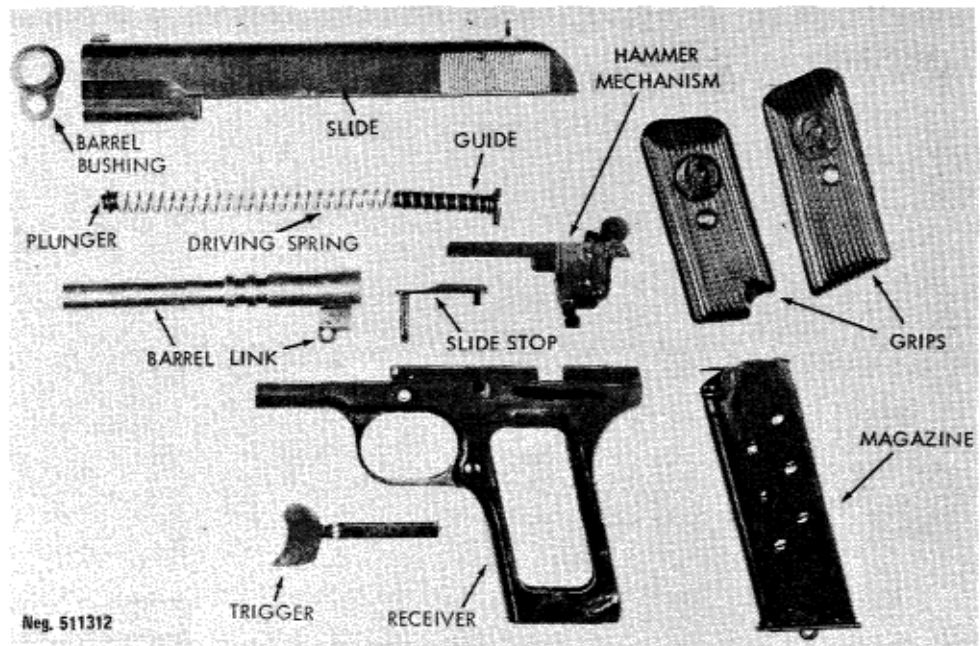
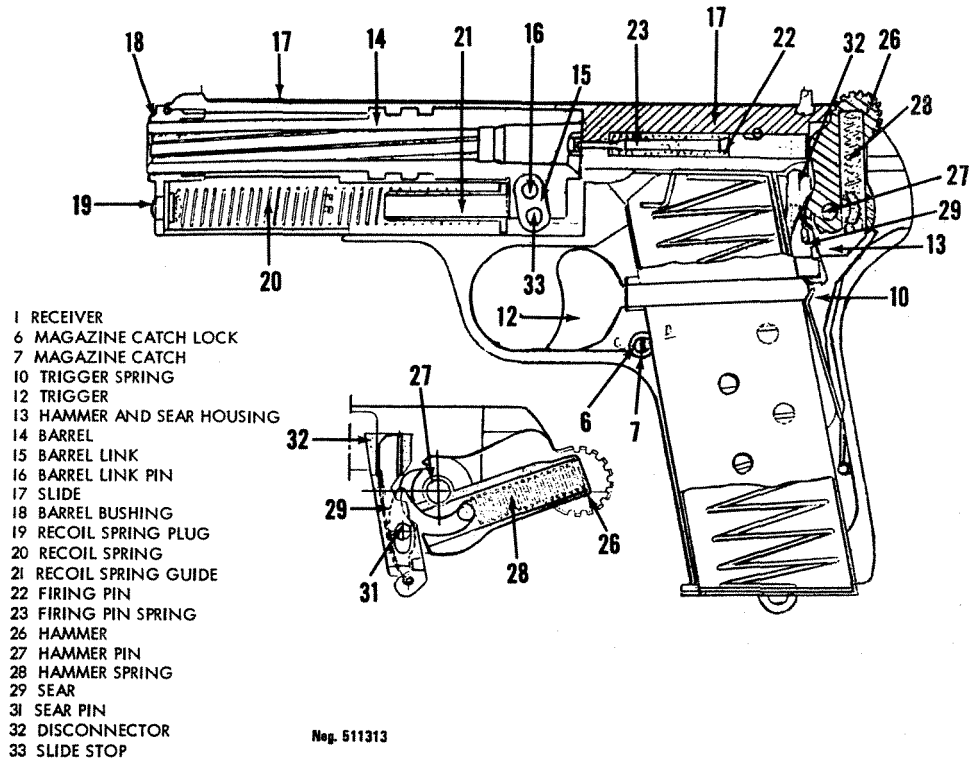

Figure 13. Tokarev pistol, disassembled.
Figure 14. Tokarev pistol, section.
(1) Clear the pistol (para 15d), but do not insert the magazine.
(2) Use the point of a bullet or similar item to press in the plunger (located directly under the muzzle) to unlock the barrel bushing. Rotate the barrel bushing half a turn until it, the driving spring, and its plunger can be removed from the slide (fig 13).
(5) Hold the slide inverted and swing the barrel link forward; lift up the rear end of the barrel to disengage it from the slide, and slide the barrel forward out of the slide.
(6) If the hammer mechanism did not fall free of the receiver, pull it out of the receiver (fig 13).
(7) No further disassembly is necessary or desirable.
(1) Place the hammer mechanism into the receiver.
(2) Slide the barrel, chamber end first, into the inverted slide until it drops into the locked position. Lay the driving spring guide (rounded side up and shaft toward the muzzle) on the barrel, just forward of the turned down link.
(3) While holding the hammer mechanism in place, slide the receiver onto the slide as far as it will go. Turn the pistol upright and look through the small hole above the trigger to insure that the holes in the link (fig 13) and the receiver are lined up; if they are not, jiggle the barrel until they are, then insert the slide stop and press the retainer forward to hold the slide stop in place.
(4) Insert the driving spring into the slide and slide it over the driving spring guide. Move the hammer to the half-cock position to lock the slide in place, and carefully force the driving spring and plunger into the slide.
(5) With the smaller hole of the barrel bushing aligned with the front sight, insert the bushing into the slide, and rotate it one-half turn. The driving spring plunger will lock it in place. Insert the magazine, cock the hammer, and press the trigger.
c. The barrel is locked to the slide by ribs (machined into the outer surface of the barrel (14, fig 14)) that mesh with grooves in the slide. A link (15, fig 14) connects the movable barrel to the receiver by means of the slide stop pin; as the barrel moves to the rear in recoil, the link pivots and pulls the rear end of the barrel down to unlock it from the slide. Because of its momentum, the slide continues to the rear.
fig 14). When the slide recoils, the disconnecter is forced down, pushes the trigger extension down, and releases the sear. The sear spring then presses the sear against the hammer. As the slide continues to recoil, it rocks the hammer back so that the sear engages the sear notch on the hammer. When the slide counterrecoils, the sear holds the hammer cocked; when the slide is fully forward, the disconnecter is free to raise into the cut in the slide. This action allows the trigger bar, under the pressure of the trigger spring, to rise against the bottom of the sear. When the trigger is released, it moves forward, and as soon as the trigger bar clears the sear, the trigger spring again forces the trigger bar up into position in front of the sear. Pressure on the trigger will now fire another shot.